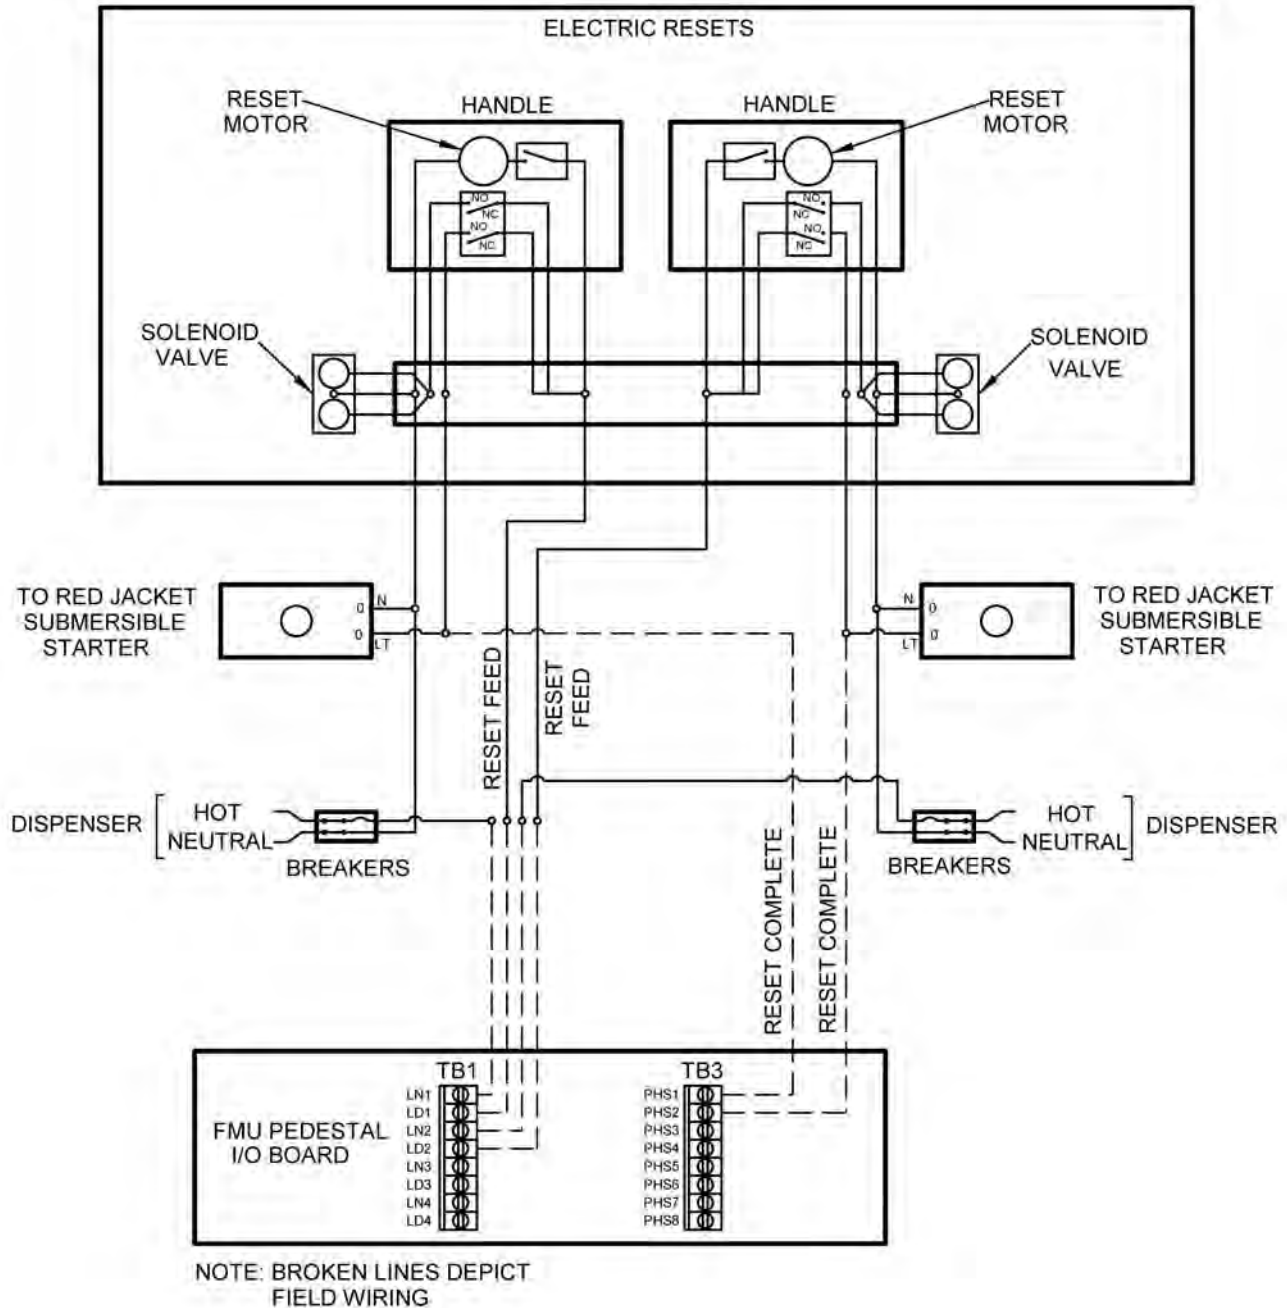

Figure 4-7. Wiring Diagram - Controlling Reset
- a. **Controlling Reset.** See Figure 4-7. This control method interrupts power from the circuit breaker to each dispenser reset mechanism. Quick and easy; there is no power present if a solenoid valve sticks open or a reset mechanism or contact starter fails. Figure 4-7 illustrates controlling reset in a dispenser using two circuit breakers, one per hose. Some arrangements may only be using one breaker. The power from one breaker may be brought into LN1, then jumped to LN2. The diagram also illustrates wiring pump handle detection into the FMU. Pump handle detection is only possible through an **END ONLY** pump handle configuration, and only with FuelMaster® Plus FMUs. If pump handle detection is not needed, or not possible, omit those wires connected to the PHS positions on TB3. Control will still be attained, but pump handle detection will not be present.